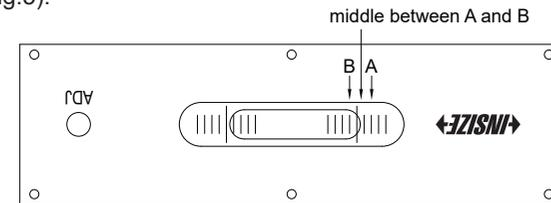

Fig.5
- e) If  $A-B \leq 1/2$  div, the level can be used. If  $A-B > 1/2$  div (in the above example,  $A-B=3$  div), rotate the adjust screw lightly until the bubble moves to the middle between A and B (Fig.5).